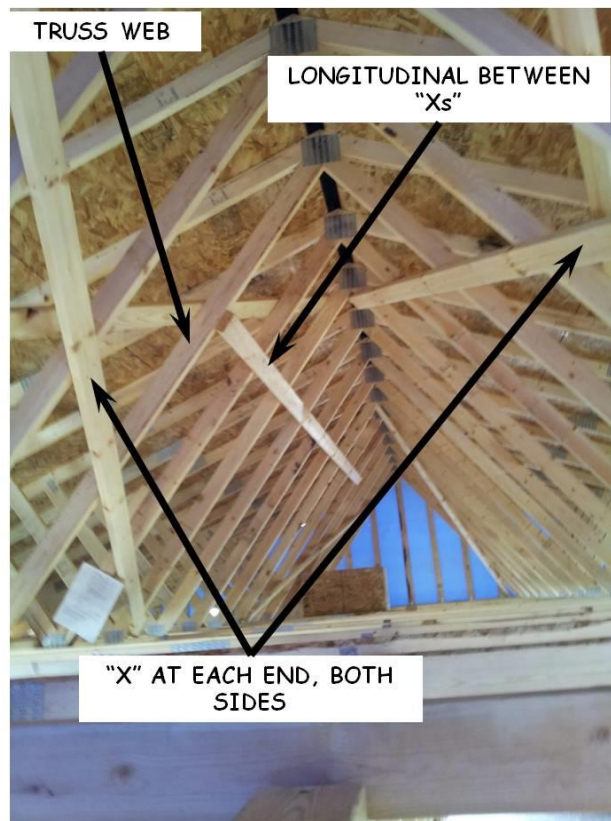

Figure 7-6. Truss Bracing.
1. After roof sheathing has been installed, permanently install X-bracing (diagonal). This bracing prevents lateral movement of the truss system. The bracing is nailed to the truss webs as shown in Figure 7-6.
5. Connect the X-braces by nailing one long 2x4, horizontally, to the truss webs, about halfway down from the peak. Each end of the longitudinal bracing must be nailed to at least two truss webs to which an X brace is nailed (see Figure 7-6). If more than one longitudinal 2x4 is required to span the distance, overlap at least two trusses where they meet.